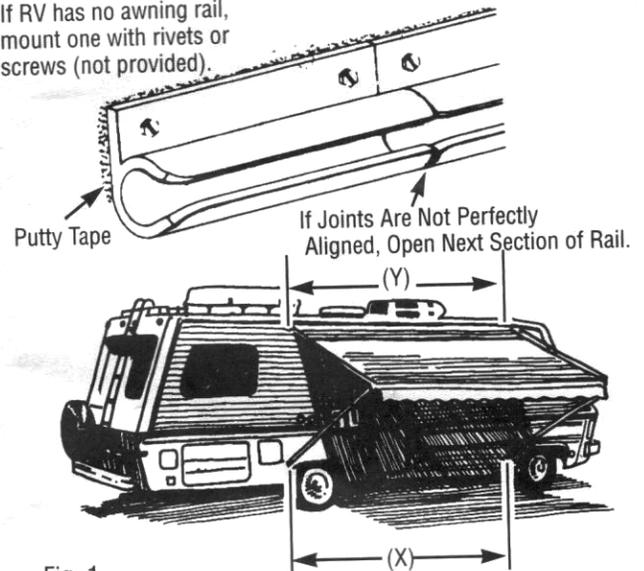

Fig. 1
B. Lift arm storage locks, located on each upper arm, to the unlocked position. (See Figure 1)